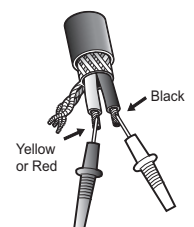

Figure 2.
Three (3) ohm readings should be taken for each WarmlyYours TempZone™ Floor Heating Cable at each stage of the installation and recorded in the table on the warranty card in section 10. Refer to Figure 2 for instructions about how to attach the ohmmeter or PowerMan™ to take each type of reading.